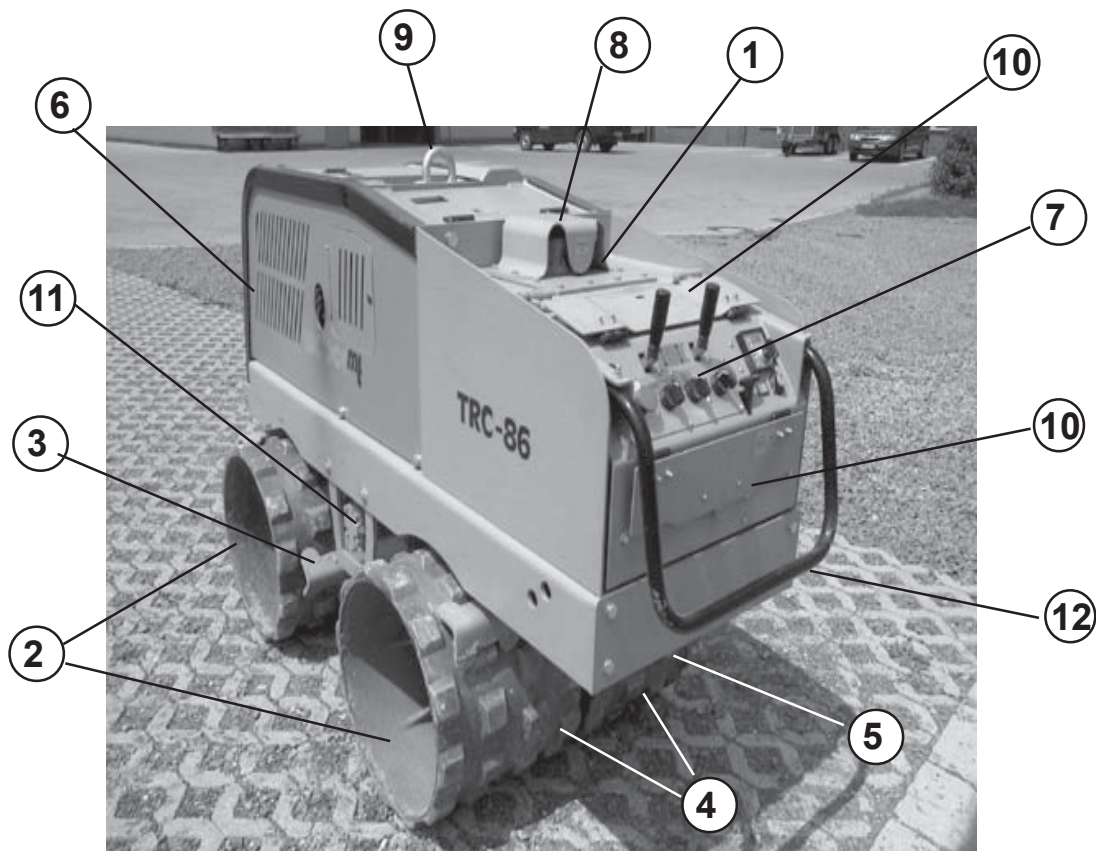

Figure 2
Example 1: (2/1) means figure 2, item 1
Example 2: (2/3,6) means figure 2, item 3 and item 6
Example 3: (2/2...4) means figure 2, items 2 to 4